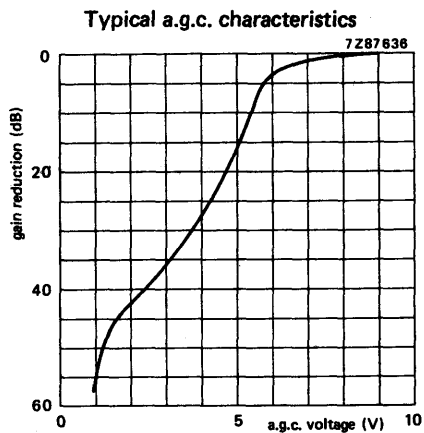

Fig. 4 Low v.h.f.
A.G.C. voltage (Figs 4, 5 and 6)